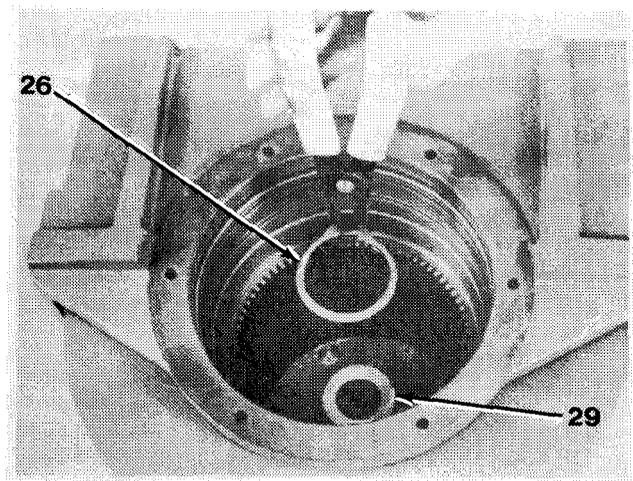

Figure 16-12
18. Remove snap ring (26) from bearing support (29) and stand winch on motor end with bearing support (29, Figure 16-12) up.